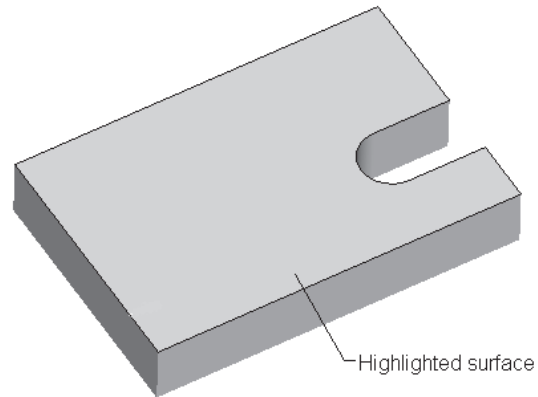

Figure 4-78 Surface selected to be at the top
6. Select the top face of the base feature shown in Figure 4-78 and choose the **Top** option from the **Orientation** drop-down list.